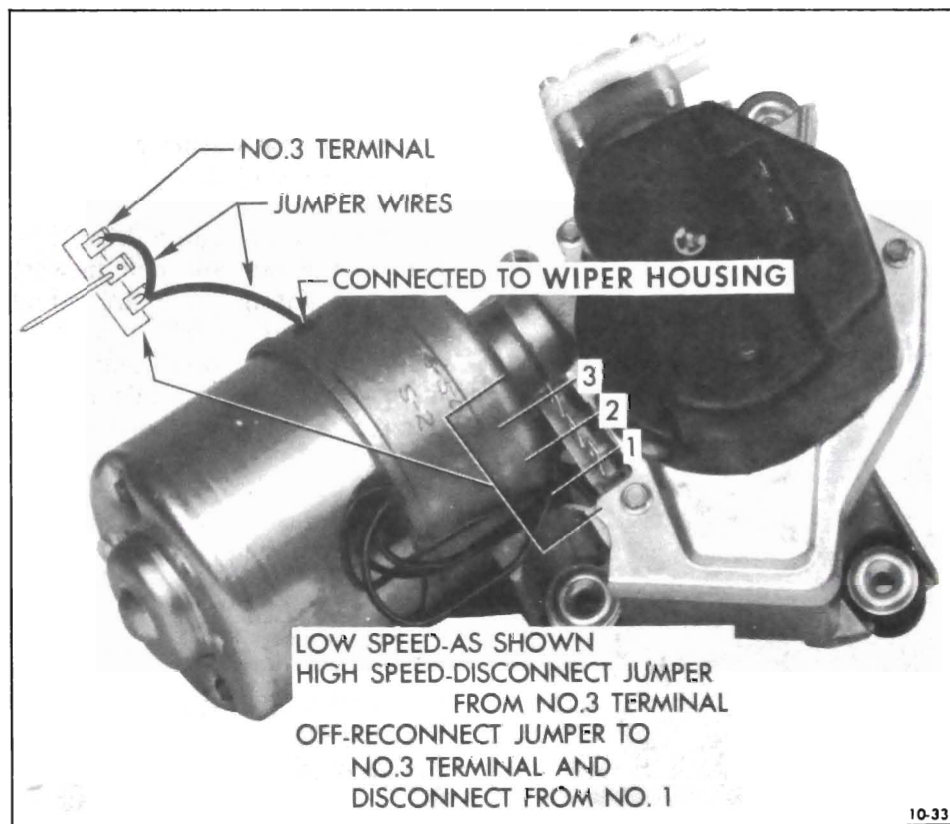

Figure 10-55 Connections to Operate Wiper Independent of Instrument Panel Switch
2. *Checking Wiper Operation.* Operate wiper independently of the car wiring or switch, as shown in Figure 10-55. Check low and hzghspeeds and if wiper shuts off correctly.